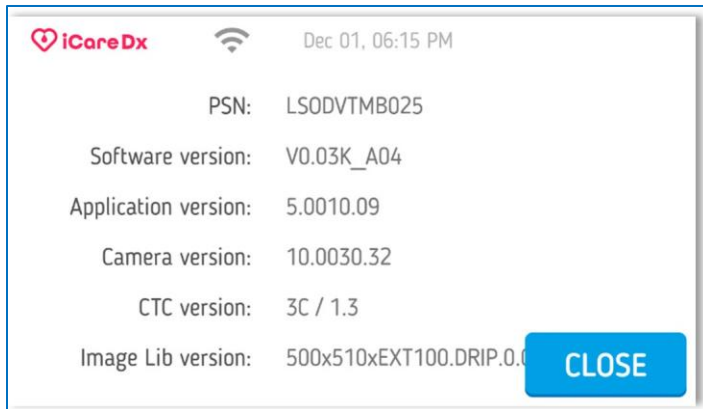

Figure 2
- To check the version of the software running on PSS-1, from the HOME screen touch the OTHERS > SETTINGS > ABOUT in the bottom left of the screen. A pop-up information window will appear listing the version (See Figure 2).